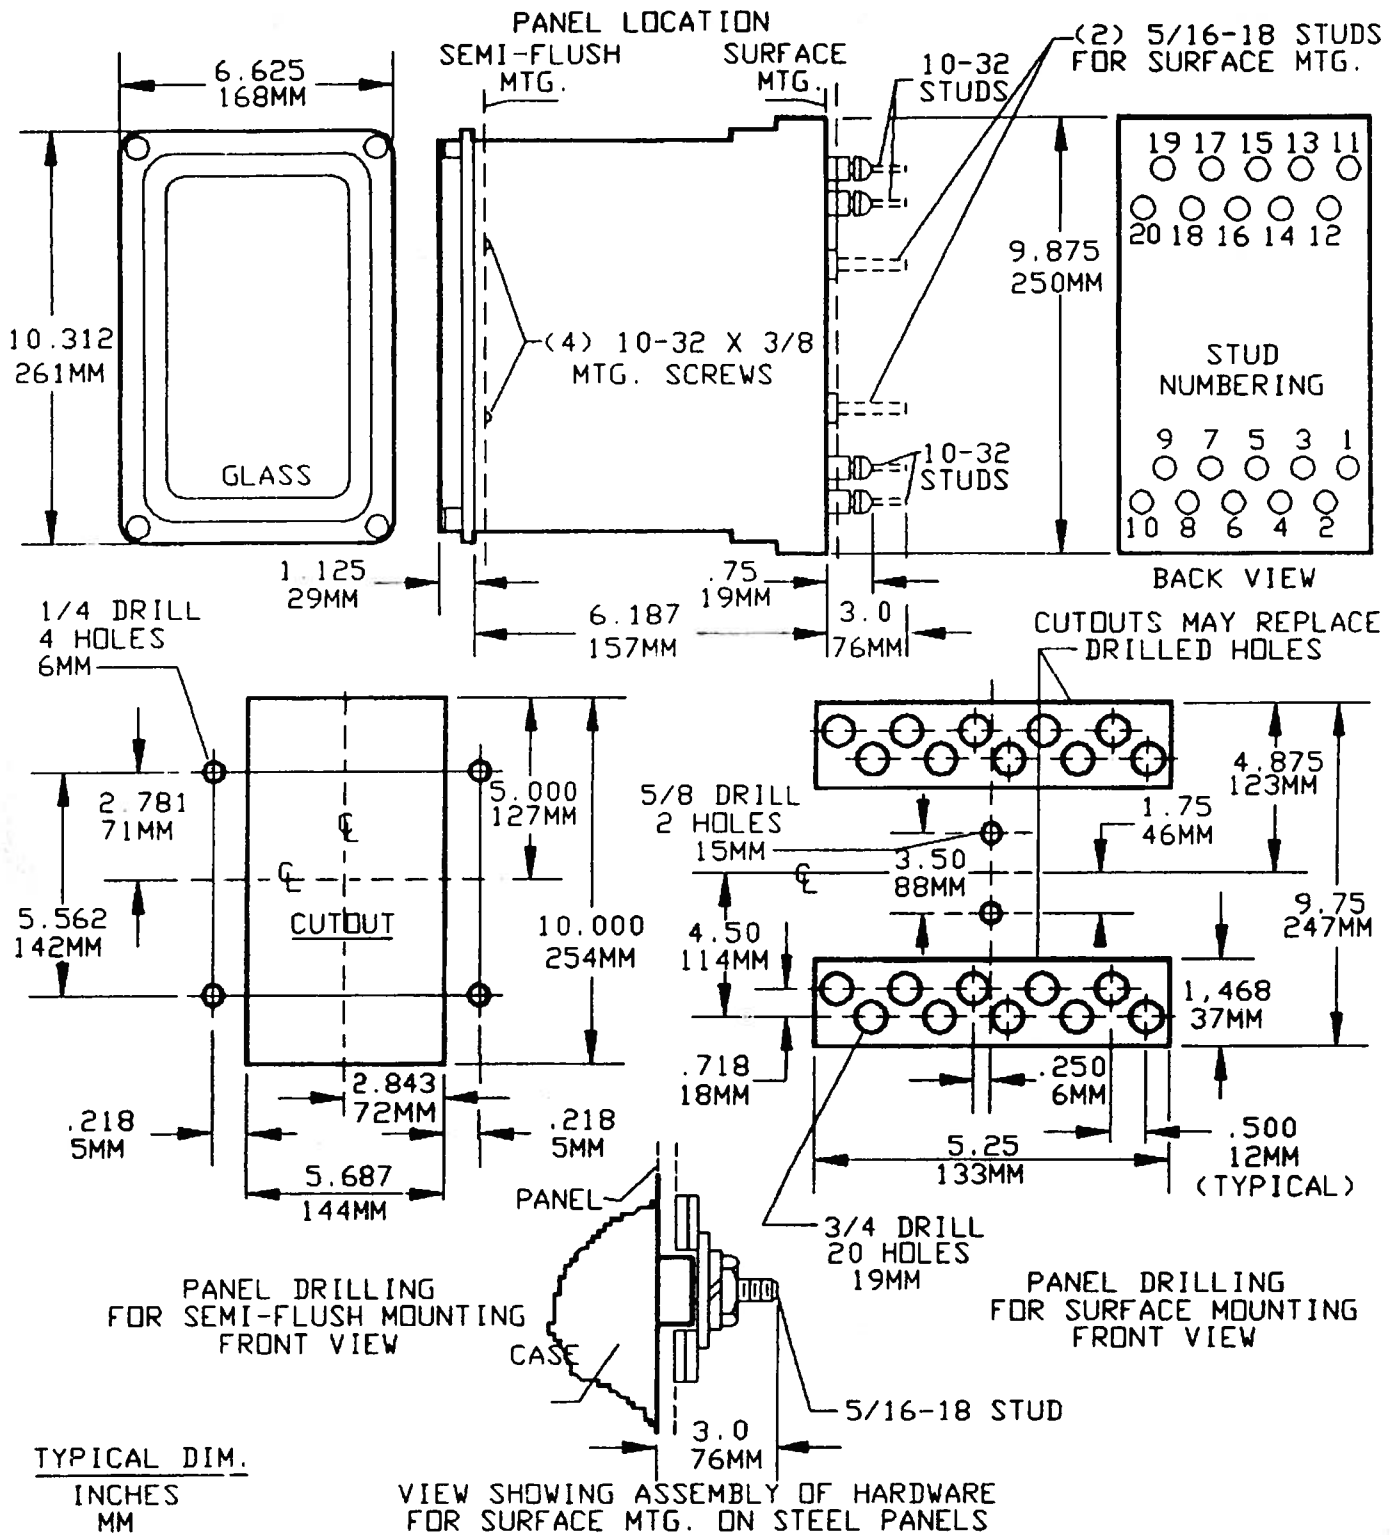

Figure 4 (6209272 [7]) Outline And Panel Drilling Dimensions For The HAA19A Relay
Included in the HAA19A relay are a telephone unit (A) and a target seal-in unit (TSI). The relay is mounted in a double-ended S2 case; the outline and panel drilling dimensions for which are given in Figure 4. The target seal-in unit and its associated contacts are brought out through the bottom studs. The top studs are used to bring out the telephone unit and its associated contacts. Internal connections for the HAA19A relay are shown in Figure 1. One HAA19A is required per transformer pressure relay.
Since the last revision, there has been a change in Figure 4.